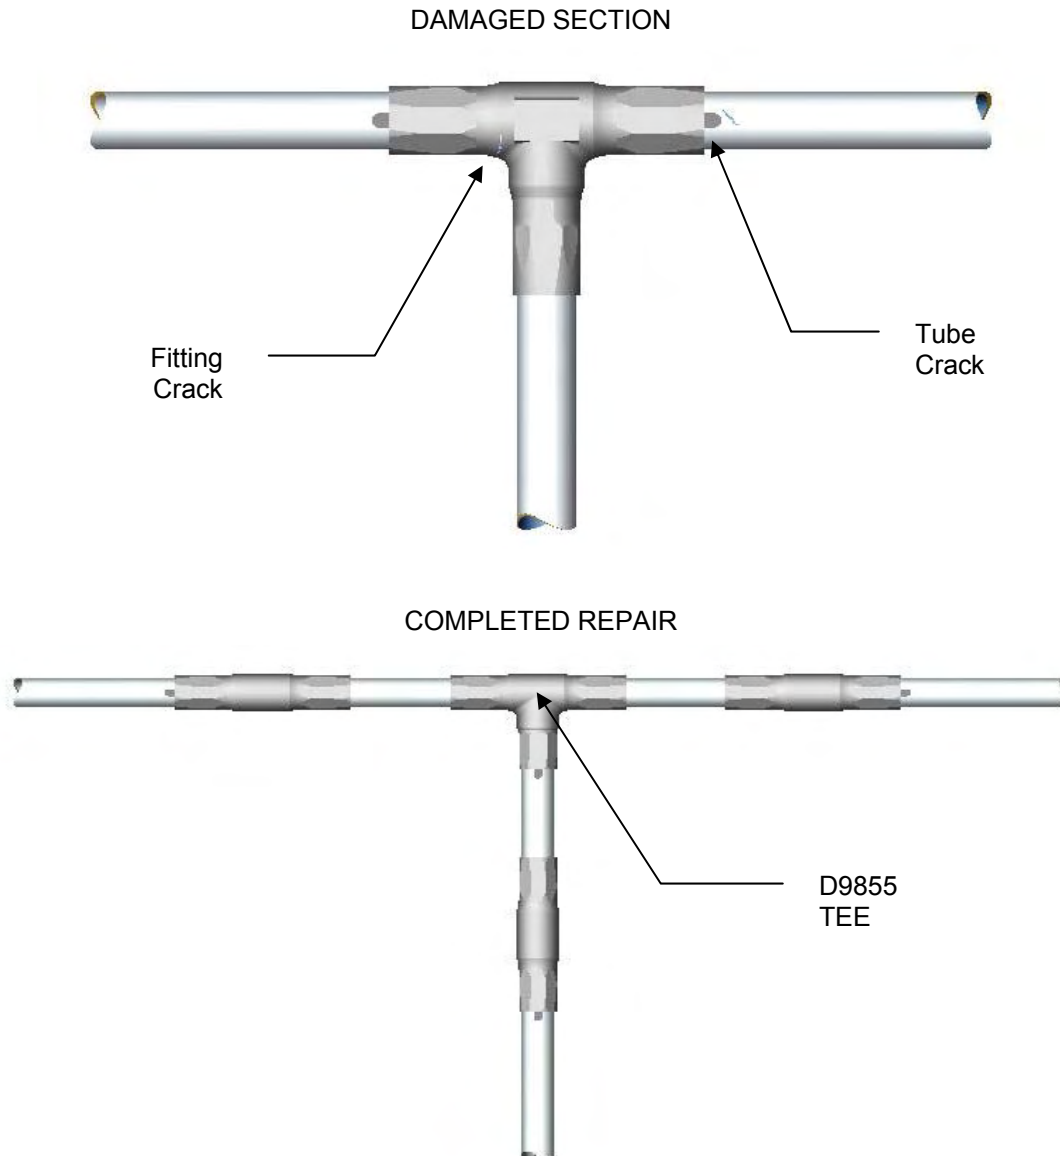

Figure 11: Type 3 Repair
a. Cut out defective elbow, tee, or cross. Cut the tube only after checking to assure enough space is available to operate the swage tool. See Figure 11 below.